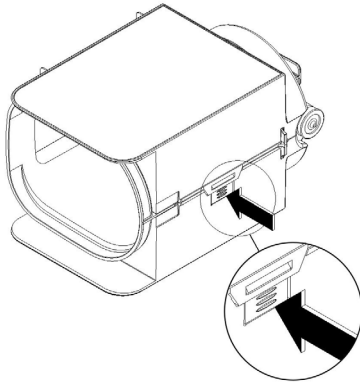

figure 9
- 1 Click open the two parts. (see figure 9).